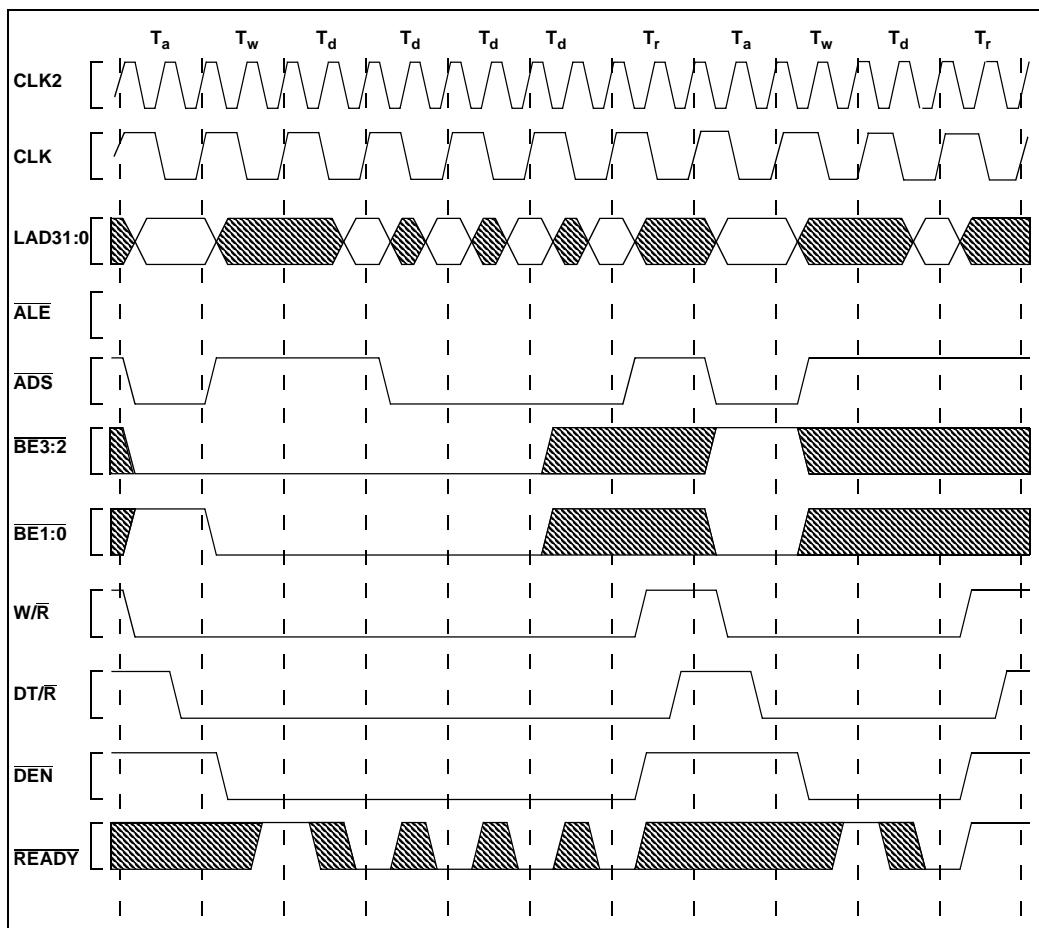

Figure 26. Accesses Generated by Quad Word Read Bus Request, Misaligned Two Bytes from Quad Word Boundary (1, 0, 0, 0 Wait States)
- Figure 26, Accesses Generated by Quad Word Read Bus Request, Misaligned Two Bytes from Quad Word Boundary (1, 0, 0, 0 Wait States) (pg. 33)